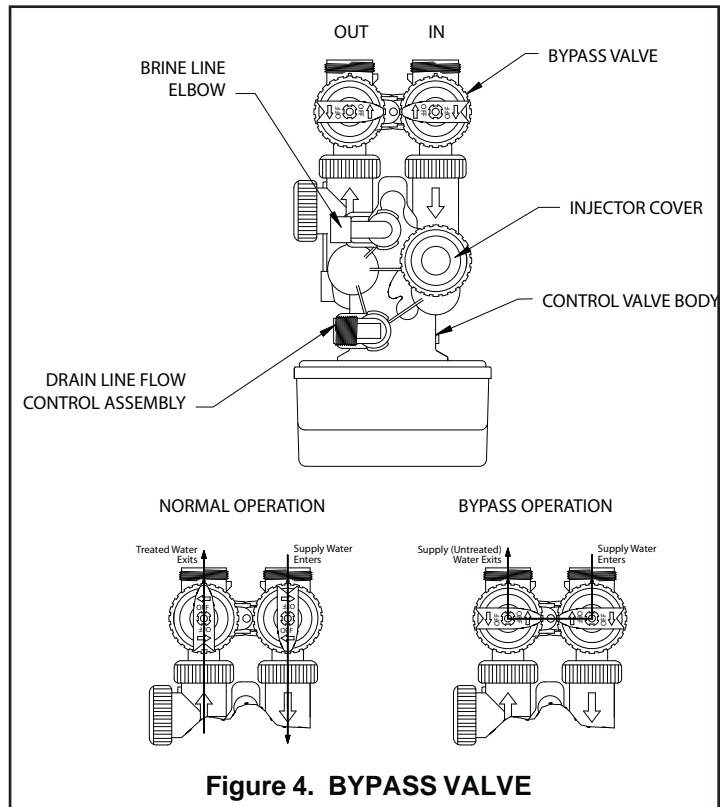

Figure 4. BYPASS VALVE
Step 13) Partially open INLET knob on bypass valve (Figure 4). This will allow the unit to fill slowly from the bottom up, reducing air entrapment. Allow unit to fill slowly, failure to do so could result in loss of resin to the drain. Once a steady stream of water, no air, is flowing to drain the inlet and outlet knobs on the bypass can be fully opened.